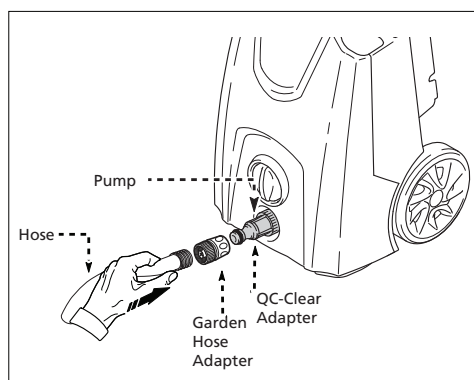

Fig. 14
- Install the garden hose adapter (GHA) and quick connect filter. First, remove the plastic shipping cover on the water inlet on the front of the power washer. Attach the clear plastic adapter by screwing it into the water inlet (Fig. 14).